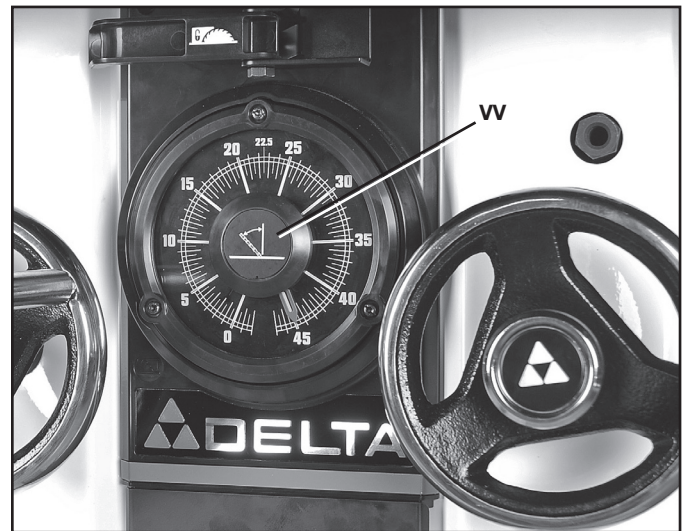

FIG. 43
1. Remove the magnetic cover (VV) Fig. 43.
6. Put magnetic cover (VV) Fig. 43 back on.